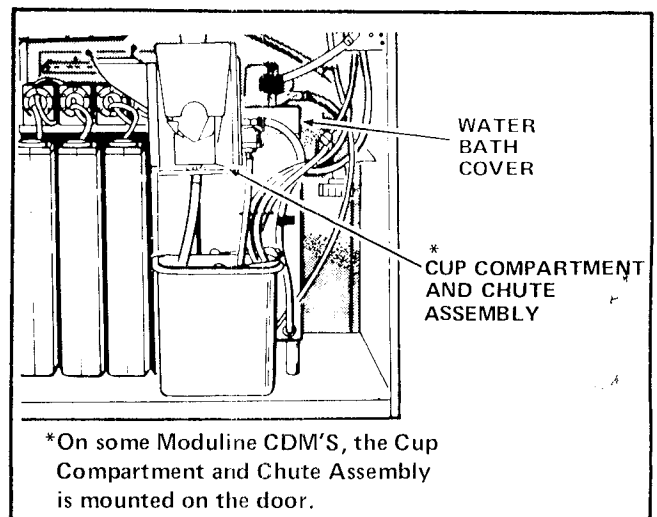

FIGURE 2
4. On some Moduline CDM's (having the Cup Compartment mounted on the Water Bath), the CDM-72, and the CDM-72A, rotate the Cup Compartment and Chute Assembly to the right, lift, and remove from the Merchandiser. See Figure 2.
6. Remove the Water Bath Cover. See Figure 2.
4. Rotate the Cup Compartment and Chute Assembly to the right, lift, and remove from the Merchandiser. See Figure 2.
8. Install the Water Bath Cover on the Water Bath. See Figure 2.
10. On some Moduline CDM's (having the Cup Compartment mounted on the Water Bath), the CDM-72, and the CDM-72A, install the Cup Compartment and Chute Assembly. See Figure 2.